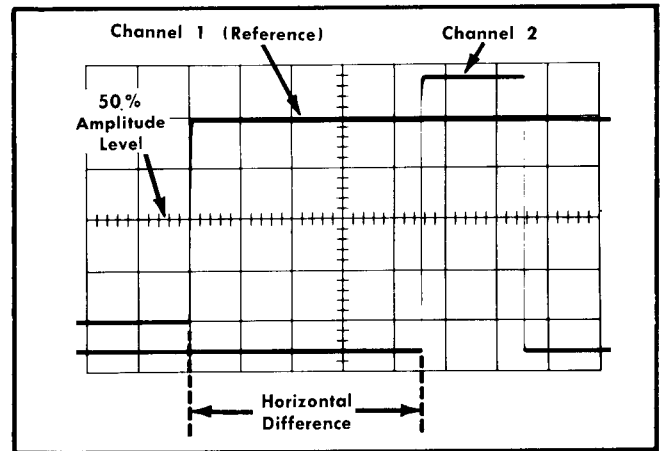

Fig. 2-18. Measuring time difference between two pulses.
11. Measure the horizontal difference between the Channel 1 waveform and the Channel 2 waveform (see Fig. 2-18).
Example. Assume that the TIME/DIV switch is set to 50 μ SEC, the MAG switch to $\times 10$ and the horizontal difference between waveforms is 4.5 divisions (see Fig. 2-18).